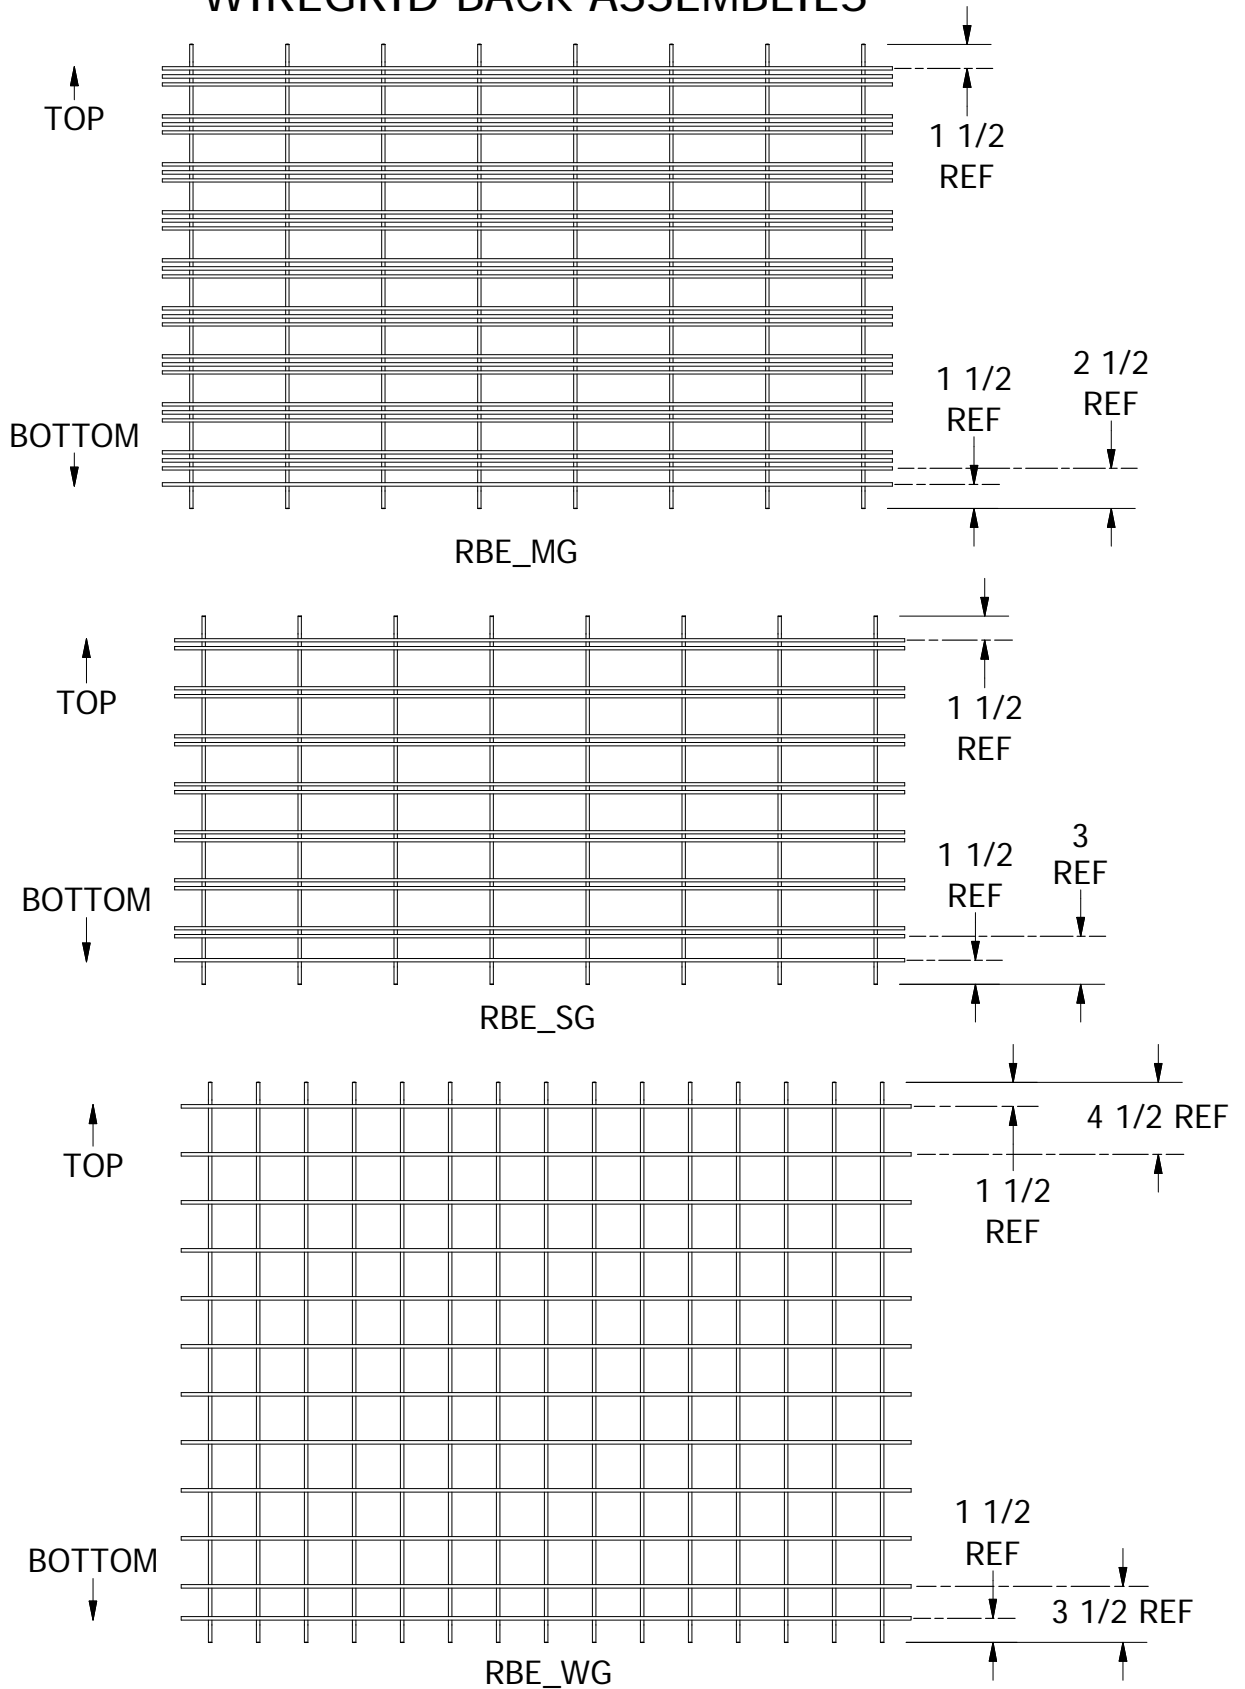

FIGURE 3
**NOTE: See Figure 3 for wire grid back orientation.**